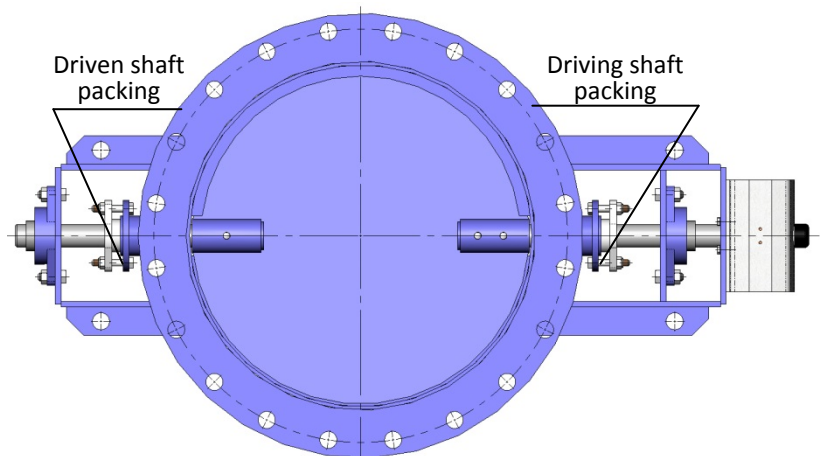

fig. 10
2. These **ML** or **MF** damper butterflies are usually fitted with two packing systems (fig. 10): one in the driving shaft and the other in the driven shaft. Start, for example, by replacing the driving shaft gasket.